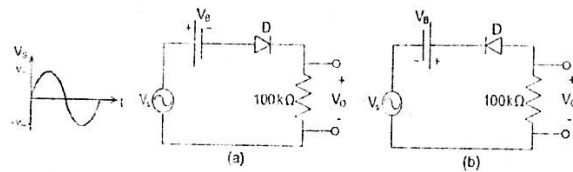

Figure 3.6: Experimental Circuit 1.
1. Connect the circuit as shown in the figure 3.6. Using a sinusoidal voltage source with 5 volts peak (V_m).